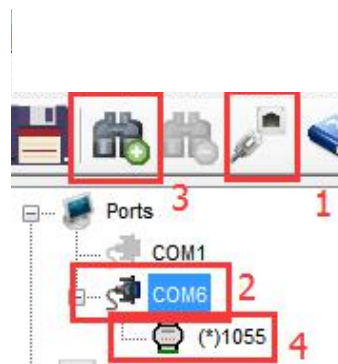

Figure 1
- 5) Search for the connected modules as shown in Figure 1, Click the icon below . Then the module configuration interface will appear.